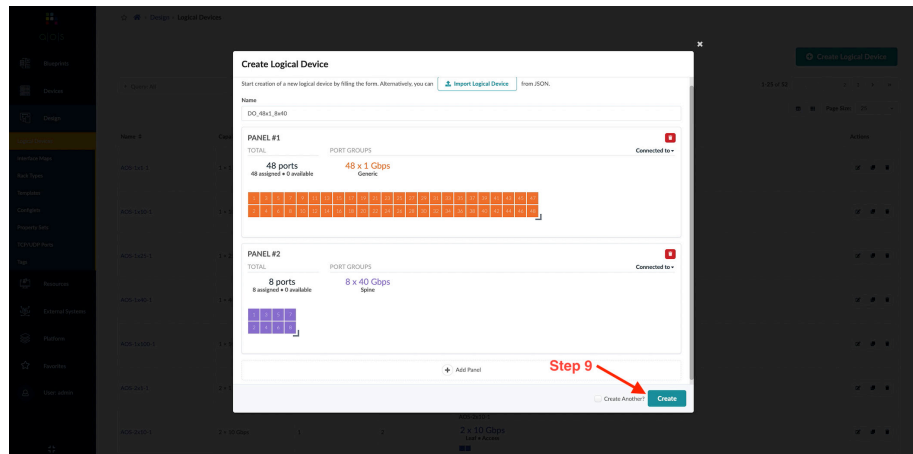

Figure 2.6 Adding Additional Panels
Step 8: Add additional panels if required, as per this example one additional panel needs to be added (Figure 2.6).